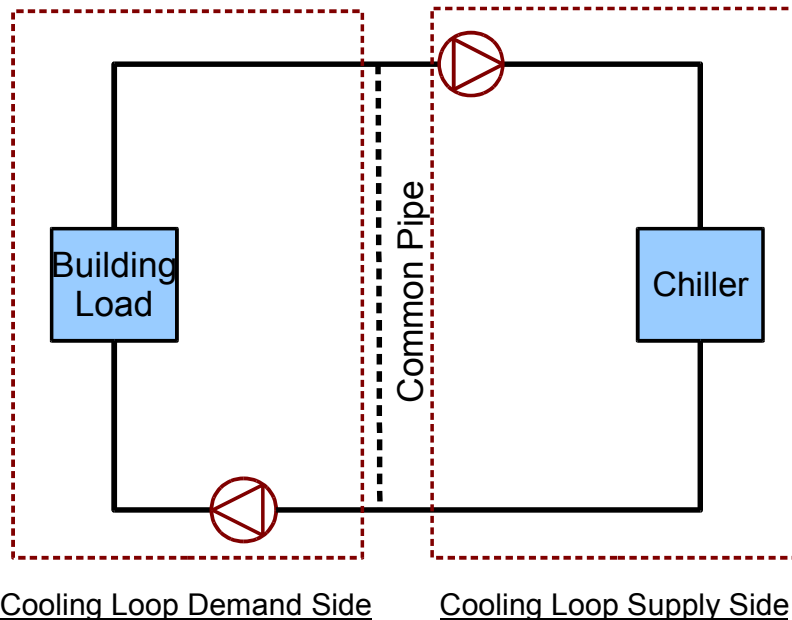

Figure 4 - Breakdown of a loop into its constituent half-loops
3. **Identify the demand side and supply side of the loop.** The half loops are depicted in Figure 4.